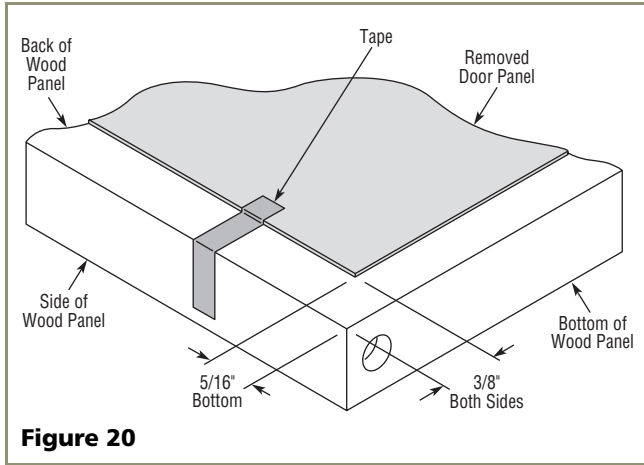
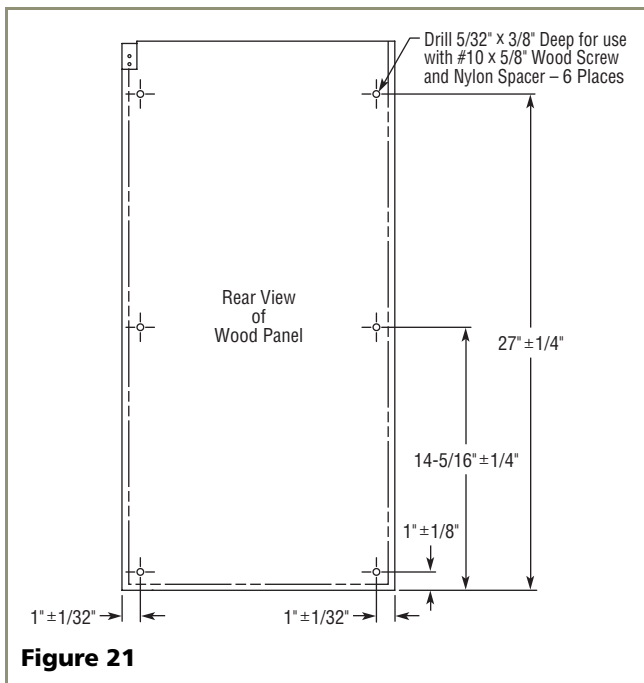

Figure 20
Figure 21
3. Place and tape the existing door panel on the back of the overlay panel (see **Figure 20**) and drill holes through both panels according to **Figure 21**. Remove tape adjoining the panels and enlarge the six holes in the overlay panel using a 0.201" (#7) drill.